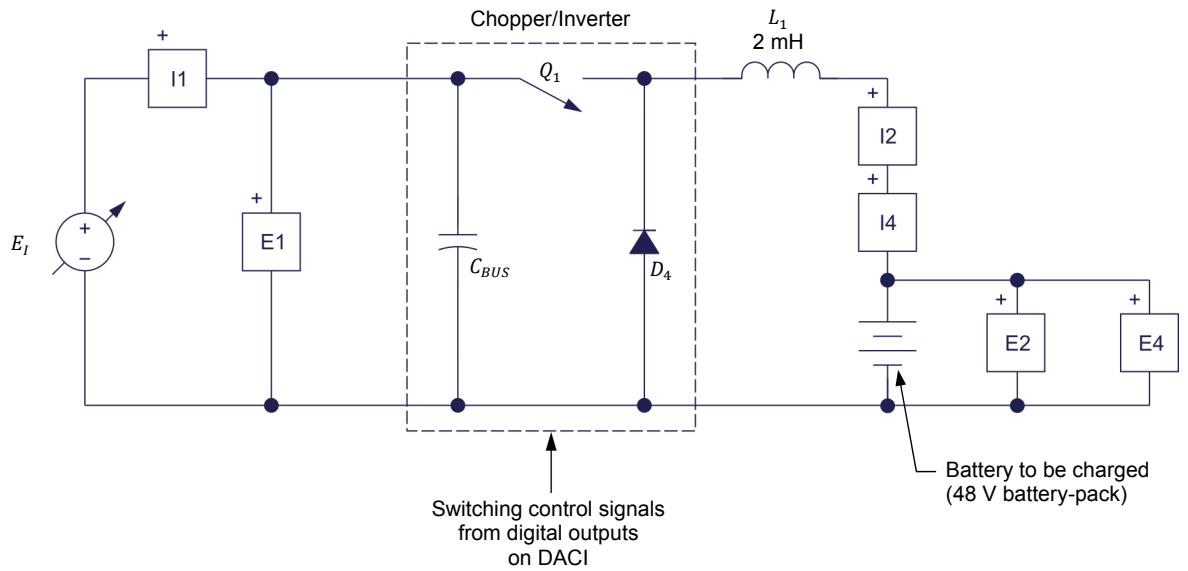

Figure 45. Circuit used to charge the Lead-Acid Battery Pack.
39. Set up the circuit shown in Figure 45. In this circuit, the voltage and current supplied to the **Lead-Acid Battery Pack** are measured using inputs *E2* and *I2*. Inputs *E4* and *I4* are used by LVDAC-EMS as feedback inputs for regulation purposes.